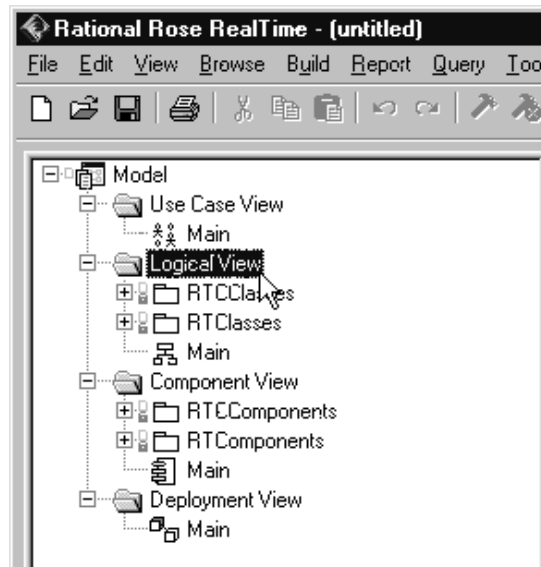

Figure 8 *Creating packages*
1. Open the pop-up menu on the Logical View package in your Rose RealTime browser. Do this by right-clicking on the Logical View package as shown in Figure 8.